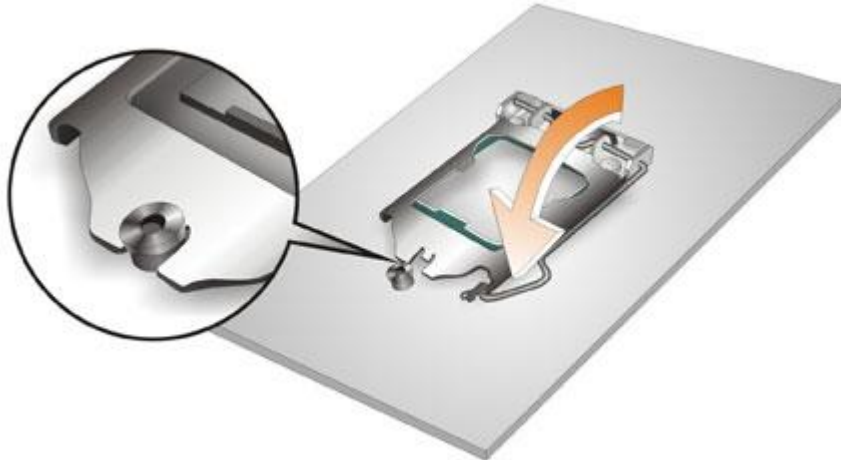

Figure 4-6: Close The Socket LGA1700
Step 8: Close the CPU socket. Close the load plate and pull the load lever back a little to have the load plate be able to secure to the knob. Engage the load lever by pushing it back to its original position (**Figure 4-6**). There will be some resistance, but will not require extreme pressure.